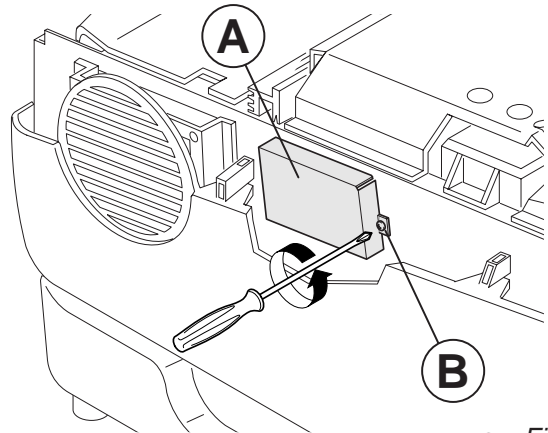

Fig. 57
2. Take the (A) cover off by unscrewing screw (B) See Fig. 57.